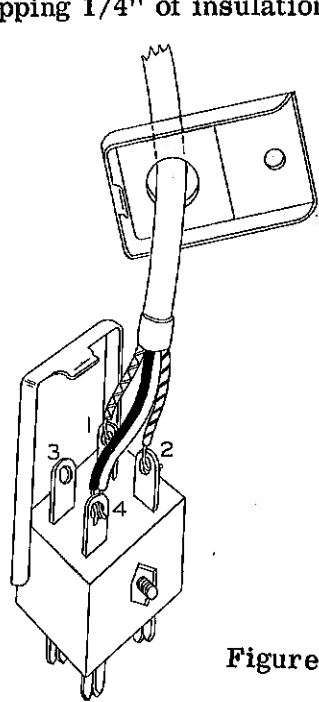

Figure 4
- () Select one of the male varicon plugs and connect the red lead to lug 2 (S), the green lead to lug 1 (S) and the white and black leads to lug 4 (S). Assemble the varicon as shown in Figures 4 and 6. Don't forget the side cover.